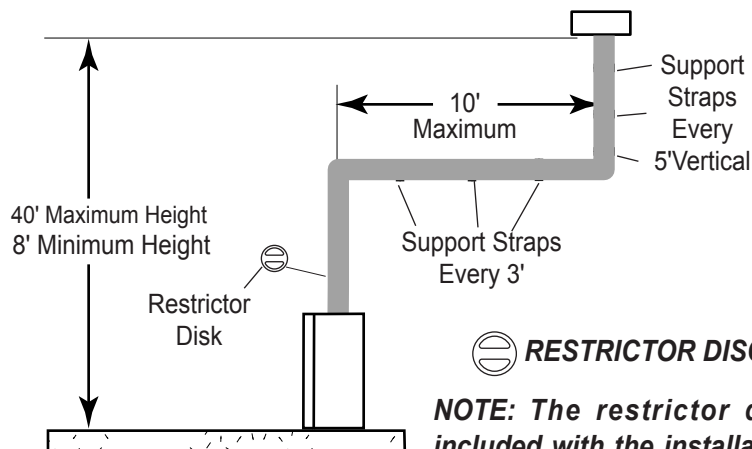

Figure 25- Support Straps for Horizontal Runs
- Vertical installations up to 40' (12m) in height. Up to a 10' (3m) horizontal vent run can be installed within the vent system using a maximum of two 90° elbows. See Figure 25.
NOTE: If an offset is needed to avoid obstructions, you must support the vent pipe every three (3) feet. Use wall straps for this purpose. See Figure 25, page 22. Whenever possible, use 45° elbows instead of 90° elbows. The 45° elbow offers less restriction to the flow of the ue gases and intake air.